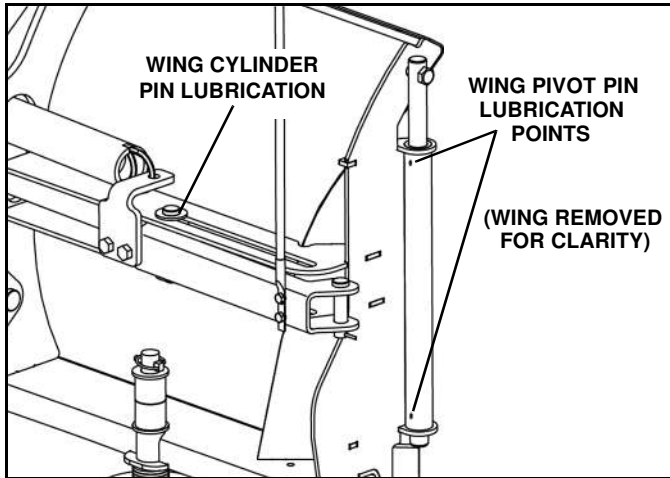

Figure 1-33
4. Fold the wings slightly and apply oil or grease to the wing pivot pins through two lubrication holes provided in each pin housing. (See Figure 1-33)
5. Add grease to wing cylinder pin and track. (See Figure 1-33)